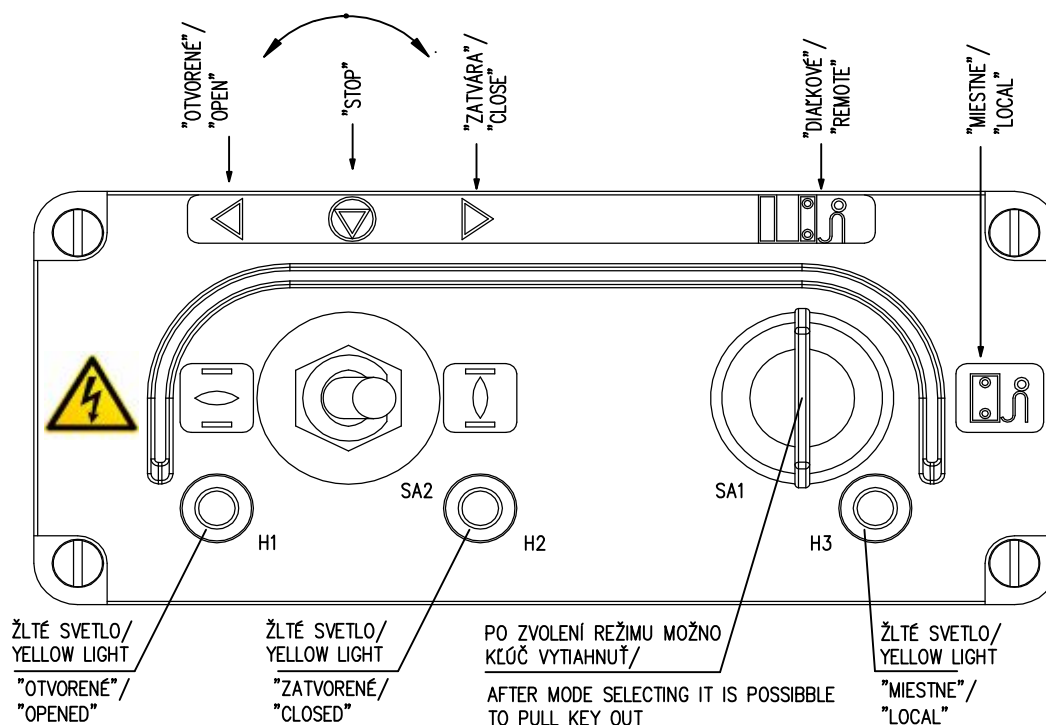

Fig.14
4.10 Local electric control (Fig.14)